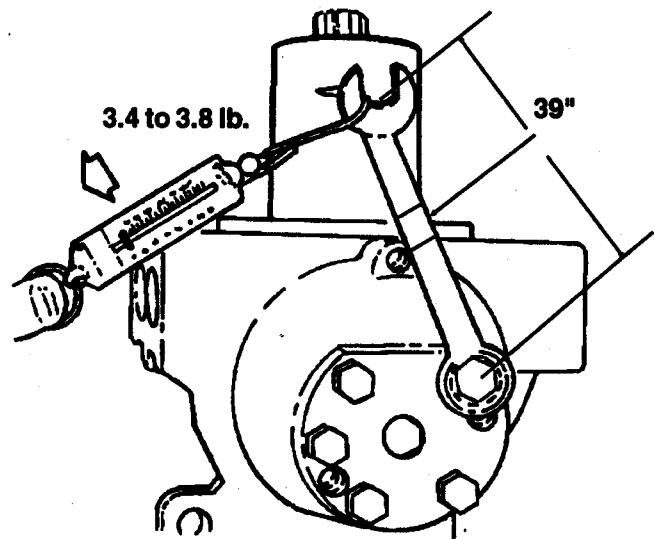

Figure 17.
29. Install new o-rings (33) onto pins (32). Tap pins into hub reduction unit (29) while supporting mandrel. Upon reaching last 1/4 inch (6 mm) check to ensure thrust washers (40) are securely located on pin, concentric with bore and thrust washer lock tab is located in slot, before tapping all the way in.
30. Install circlip (27).
31. Install new o-ring (46) onto bushing (47). Install seal (48) and bearing (49) into bushing (47). Secure with retaining ring (51).
32. Install assembled bushing onto double universal joint (45). Install double universal joint into lateral axle housing (1). install grub bolt (2) and nut (3).
33. Install outer races of taper roller bearings (10) into lateral axle housing (1).
34. Install needle bearing (41), retaining ring (42) and seal (43) into planet gear carrier (29).
35. Place steering case (11) over knuckle end of lateral axle housing (1).
36. Install dust extruders (8), rings (9) and taper roller bearings (10) onto pivot pin (6). Install shims (7) onto upper pivot pin.
37. Install both assembled pivot arm pins into steering case. Besure shims are on the top pivot pin. Secure pivot pins with twelve bolts (4) each.
**NOTE:** If shims were damaged or lost during disassembly, shims must be installed for steering to function properly. Install top pivot pin with only four bolts (4). Tighten the bolts until there is zero end float on the taper roller bearings. Measure distance between the upper pivot pin (6) and the steering case (11) in two opposite positions. Average the two mesurements and then subtract 0.70 mm for preload. This is the thickness of shims to istall. Install proper thickness of shims between pivot pin and steering case.
38. Use an approximate 39" (1 m) log wrench and a force gauge (Figure 17) to check rotating torque on the lower pivot pin. The force set tangentially to the wrench must be 3.4 - 3.8 lb. (15-17 N). If force needed to rotate the articulation is higher than 3.8 lb. (17 N) put in thicker shims; if the force is lower, take away shims until the correct preload is obtained.